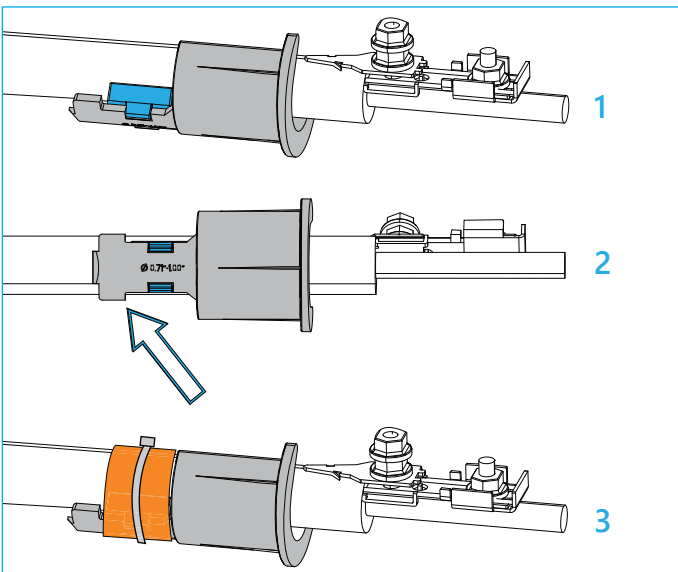

Figure 23.
9.2.5.4 Install the spacer to the cable. The spacer needs to be located at the end point of the bonding hardware at approximately 1 inch from the end of the jacket. (Figure 23 -1)
9.2.5.5 Secure the spacer to the cable with vinyl tape and a cable tie. (Figure 23 - 2,3)